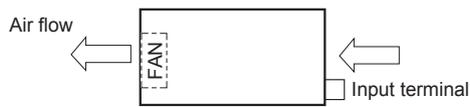
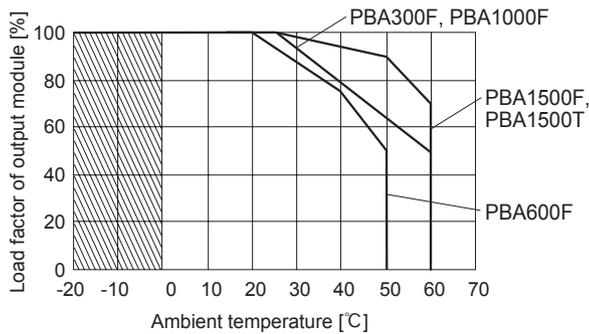

Fig.7.2 Air flow(-F3)
Fig.7.3 Ambient temperature derating curve (-F3)
- Differences from standard versions are summarized in Fig.7.2 and Fig.7.3.